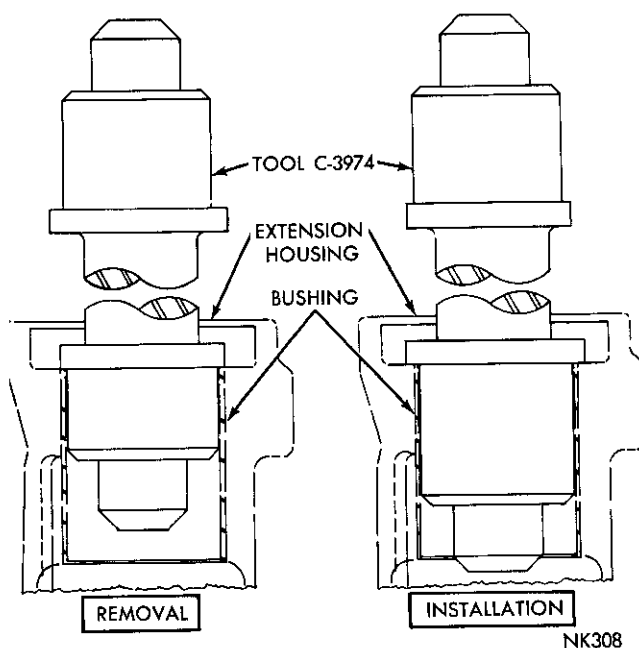

Fig. 65—Replacing Extension Housing Bushing (Chrysler Models)
(1) Pry or drive the oil seal out of the extension housing with a long blunt drift. Be sure not to mar the oil seal surface in the housing.
(2) Press or drive out bushing with Tool C-3974 (Fig. 65).
(3) Slide a new bushing on the installing end of Tool C-3974. Align the oil hole in bushing with the oil slot in the housing, then press or drive the bushing into place (Fig. 65).